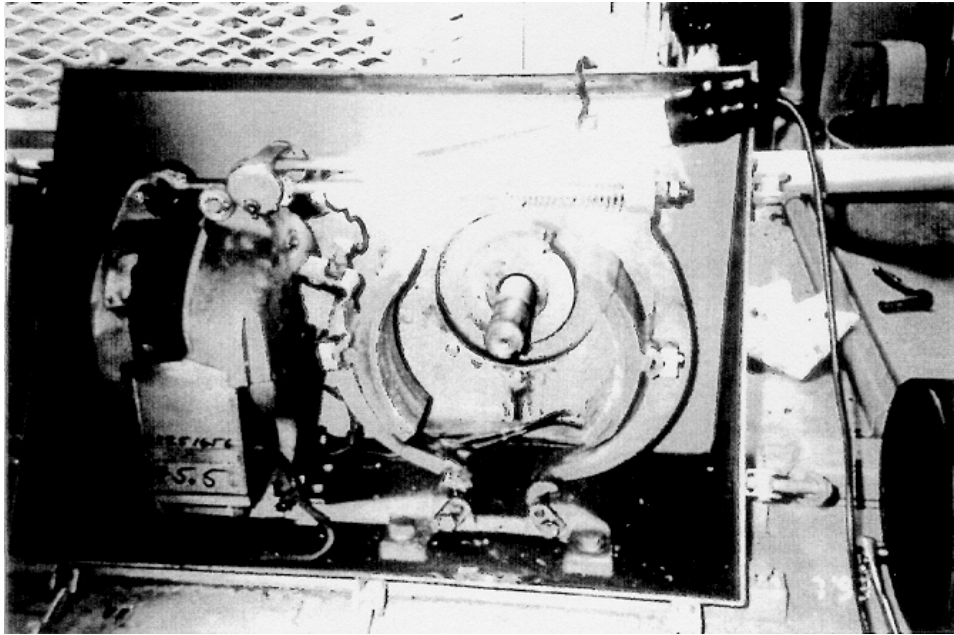

Figure 1. Brake assembly where the brake drum "walked off" from the shaft
a. On 6 July 1993 the No. 2 tainter gate at Old River Auxiliary Structure fell a distance of 2 m (6-1/2 ft) from its opened position and impacted the gate sill. The damages included the service bridge’s downstream concrete parapet wall and handrail, a line shaft segment and its support brackets between piers, and a cooling fan attached to the motor. A team from New Orleans District made a field investigation. The team concluded that the brake failed on the motor controlling the operation of gate #2. The brake failed when the brake drum “walked off” from its shaft (Figure 1). An inspection of other gate motor brake drums at the same facility revealed that another